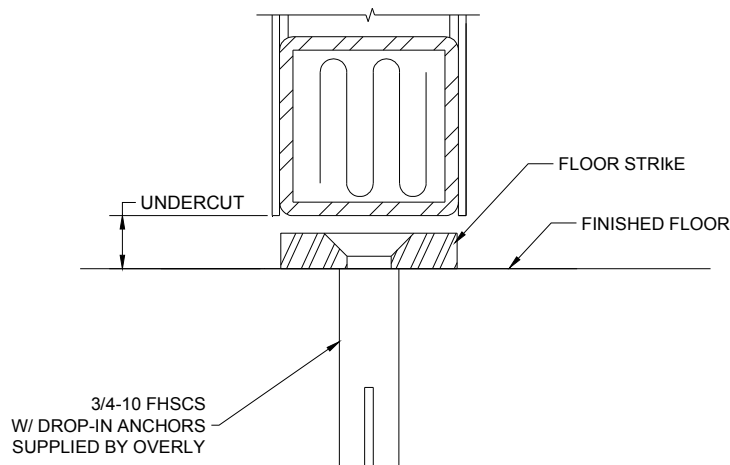

FIGURE 10 – FLOOR STRIKE – SURFACE MOUNT
4. Drill anchor holes per the anchor manufacturer's instructions and mount the floor strike. Refer to Figure 10